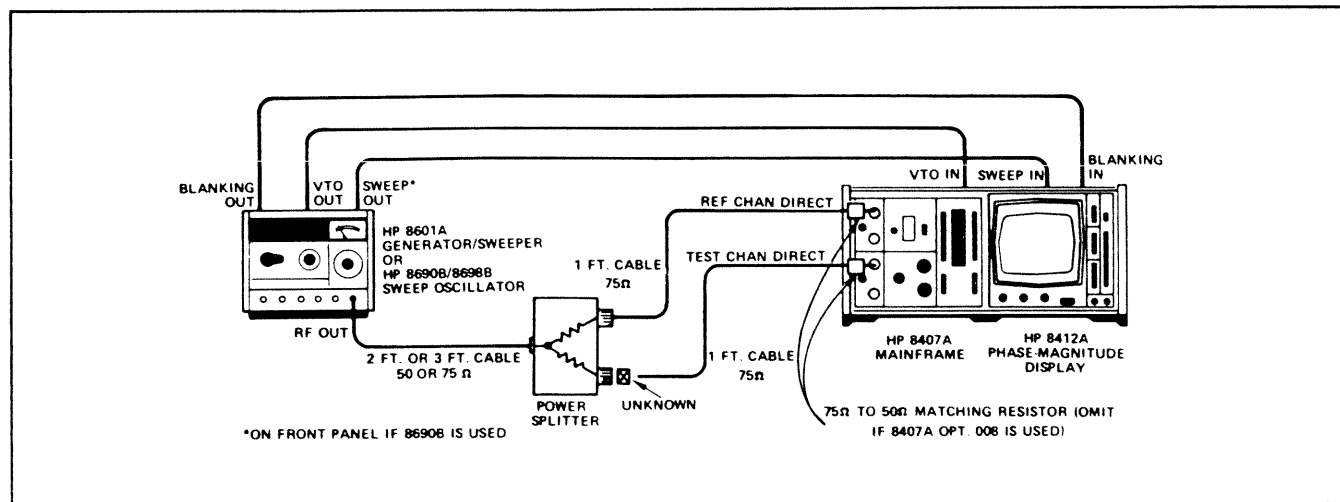

Figure 4. Setup for Making Transmission Measurements
8407A Network Analyzer with two 11658A 50 to 75 ohm matching resistors (see Figures 4 and 5).
a. The HP 11652A is used as shown in Figure 4 when making a transmission measurement.
1. Setup the equipment as shown in Figure 4.
Do not misplace the cables supplied with the kit. They have been carefully chosen for proper electrical length and are triple-shielded for isolation. Be sure to use proper lengths of cable during setup (refer to Figures 4 through 7).